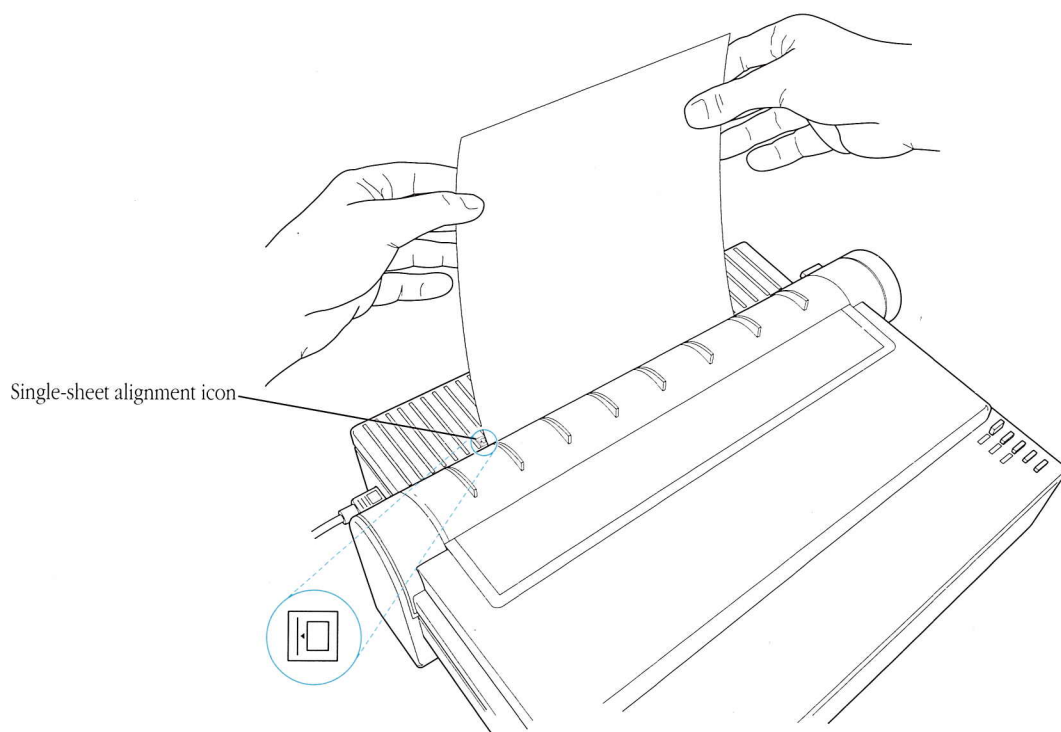

Figure 2-19 Aligning a single sheet of paper
4. Find the single-sheet icon located near the left side of the back cover and place the paper so that it lines up with the vertical line on the icon. (See Figure 2-19.)